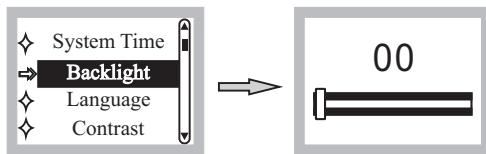

Fig. 20
- (4) Changing Backlight Brightness Time: 00 is constant. The parameter can be set by an interval of 10 seconds between 00 and 240, Fig. 20.